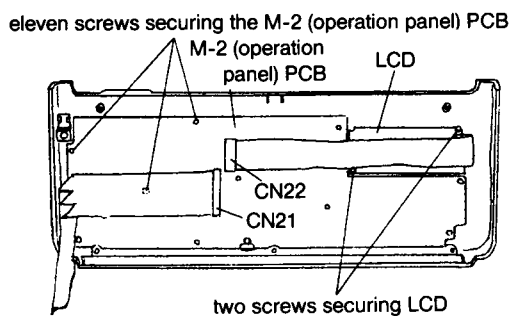

FIGURE 6-7
- Disconnect the connector CN22 on M-2 (Operation Panel) PCB. (See figure 6-7)
- Remove eleven screws securing the M-2 (Operation Panel) PCB. (See figure 6-7)
- Remove LCD by removing two screws. (See figure 6-7)